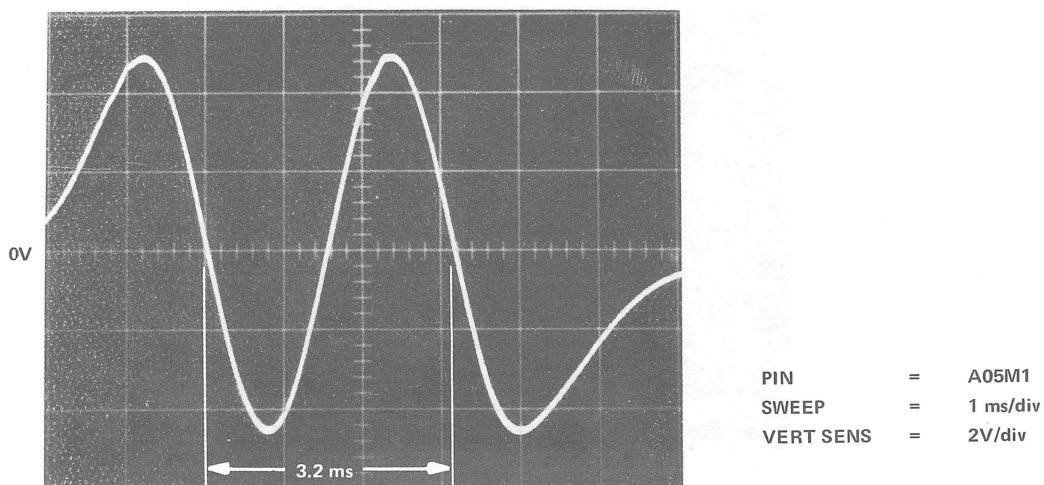

Figure 5-13 Velocity Amplitude Waveform
- Observe A05M1 for a scope display as illustrated in Figure 5-13. The duration of the center cycle must equal $3.2 \pm .05$ ms.